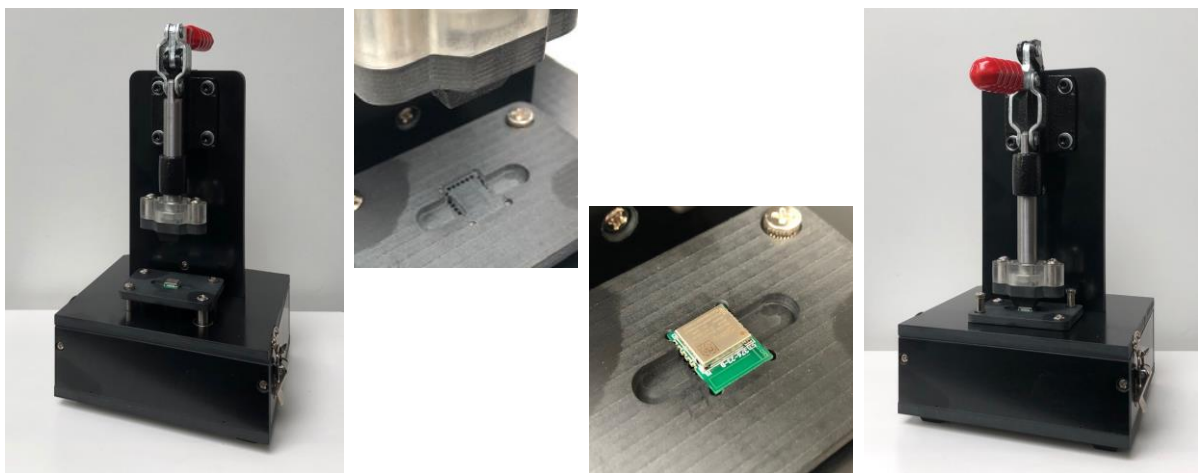

Figure 8: Opened Jig - Empty Module Holder - Module in Holder - Closed Jig
2. Open the jig by moving the lever back-wards (Figure 8).